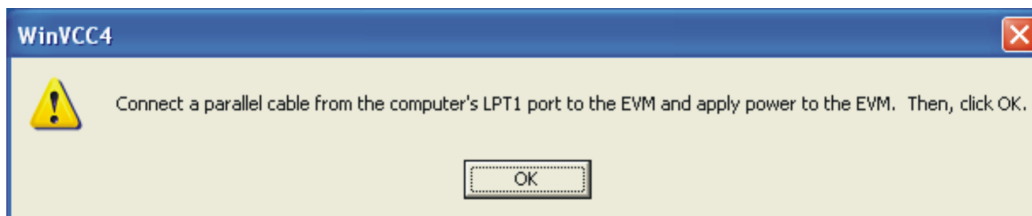

Figure 5-3. Corrective Action Required
- b. The dialog box shown in Figure 5-3 appears with instructions on how to correct the problem.